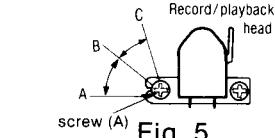
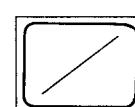

Fig. 5
Fig. 8
2. Playback the 8kHz signal from the test tape (QZZCFM). Adjust screw (B) in fig. 5 for maximum output L-CH and R-CH levels. When the output levels of L-CH and R-CH are not at maximum at the same point adjust as follows.
3. Turn screw (B) shown in fig. 5 to find angles A and C (points where peak output levels for left and right channels are obtained). Then, locate angle B between angles A and C, i.e., point where L-CH and R-CH outputs are balanced. (Refer to figs. 5 and 6.)
Adjust screw (B) shown in fig. 5 so that pointers of the two VTVMs swing to maximum and a lissajous waveform as illustrated in fig. 8 is obtained on the oscilloscope.